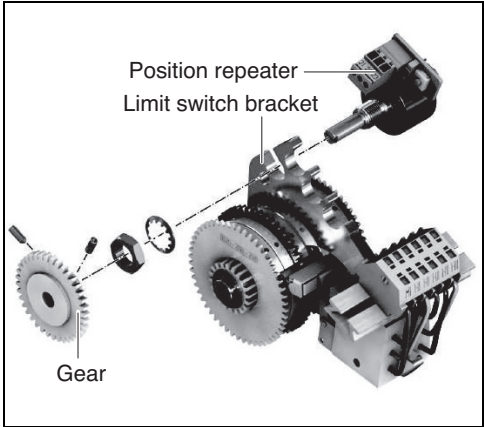

Fig. 22
- ▶ Mount the position repeater in the limit switch plate in the groove provided, tightening torque 88 lbf-in (10 Nm), see Fig. 22. The gear must engage in the limit switch teething (see Fig. 22).